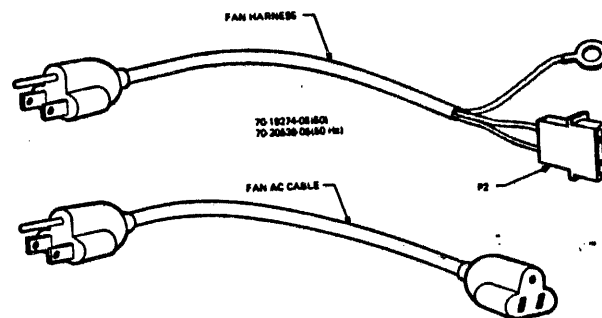

Figure 3-10. Fan AC Cable
11. Locate the fan harness, Figure 3-10, DEC part number 7019274-06, (120 vac 60 Hz) or 7030539-06 (240 vac 50 Hz), and connect P2 to J2 on the CI card cage. Connect the fan harness and fan AC cable (figure 3-10) together. Connect the other end of the fan AC cable to any available switched outlet on the 861 power controller. Connect the ground wire to the adjacent ground screw on the CI card cage. Use a star washer to ensure a good electrical connection.